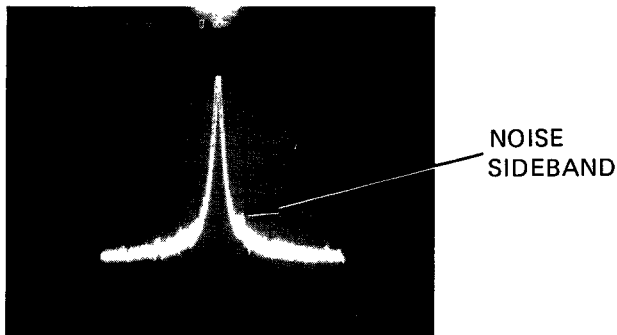

Figure 4-17. Noise Sidebands
- (d) adjust TUNING to center the sweeper's fundamental frequency on the CENTER FREQUENCY graticule line, as shown in Figure 4-17.